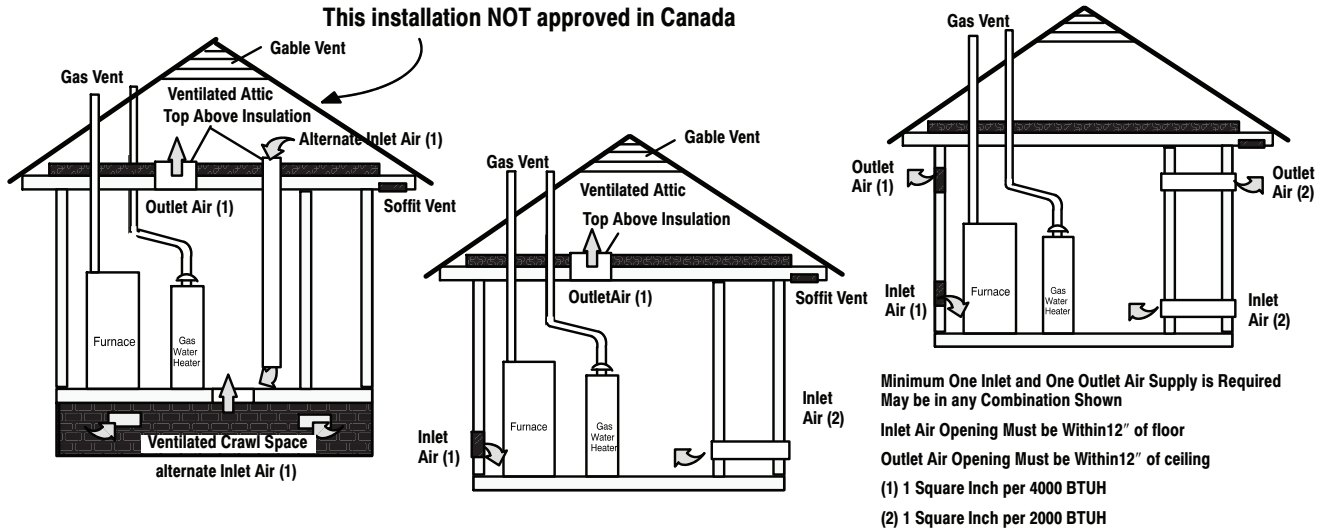

Fig. 6 - Outside Air
2. Fig. 6 illustrates how to provide combustion and ventilation air. A minimum of two permanent openings, one inlet and one outlet, are required.